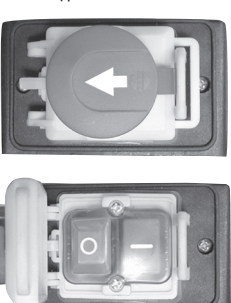

Fig. 9
1. To switch ON, press the switch cover (see fig. 9) in and slide in direction of arrow, this will expose the ON/OFF buttons. Push the ON button, (green button 'I'). DO NOT close the cover as this will switch the machine OFF again.